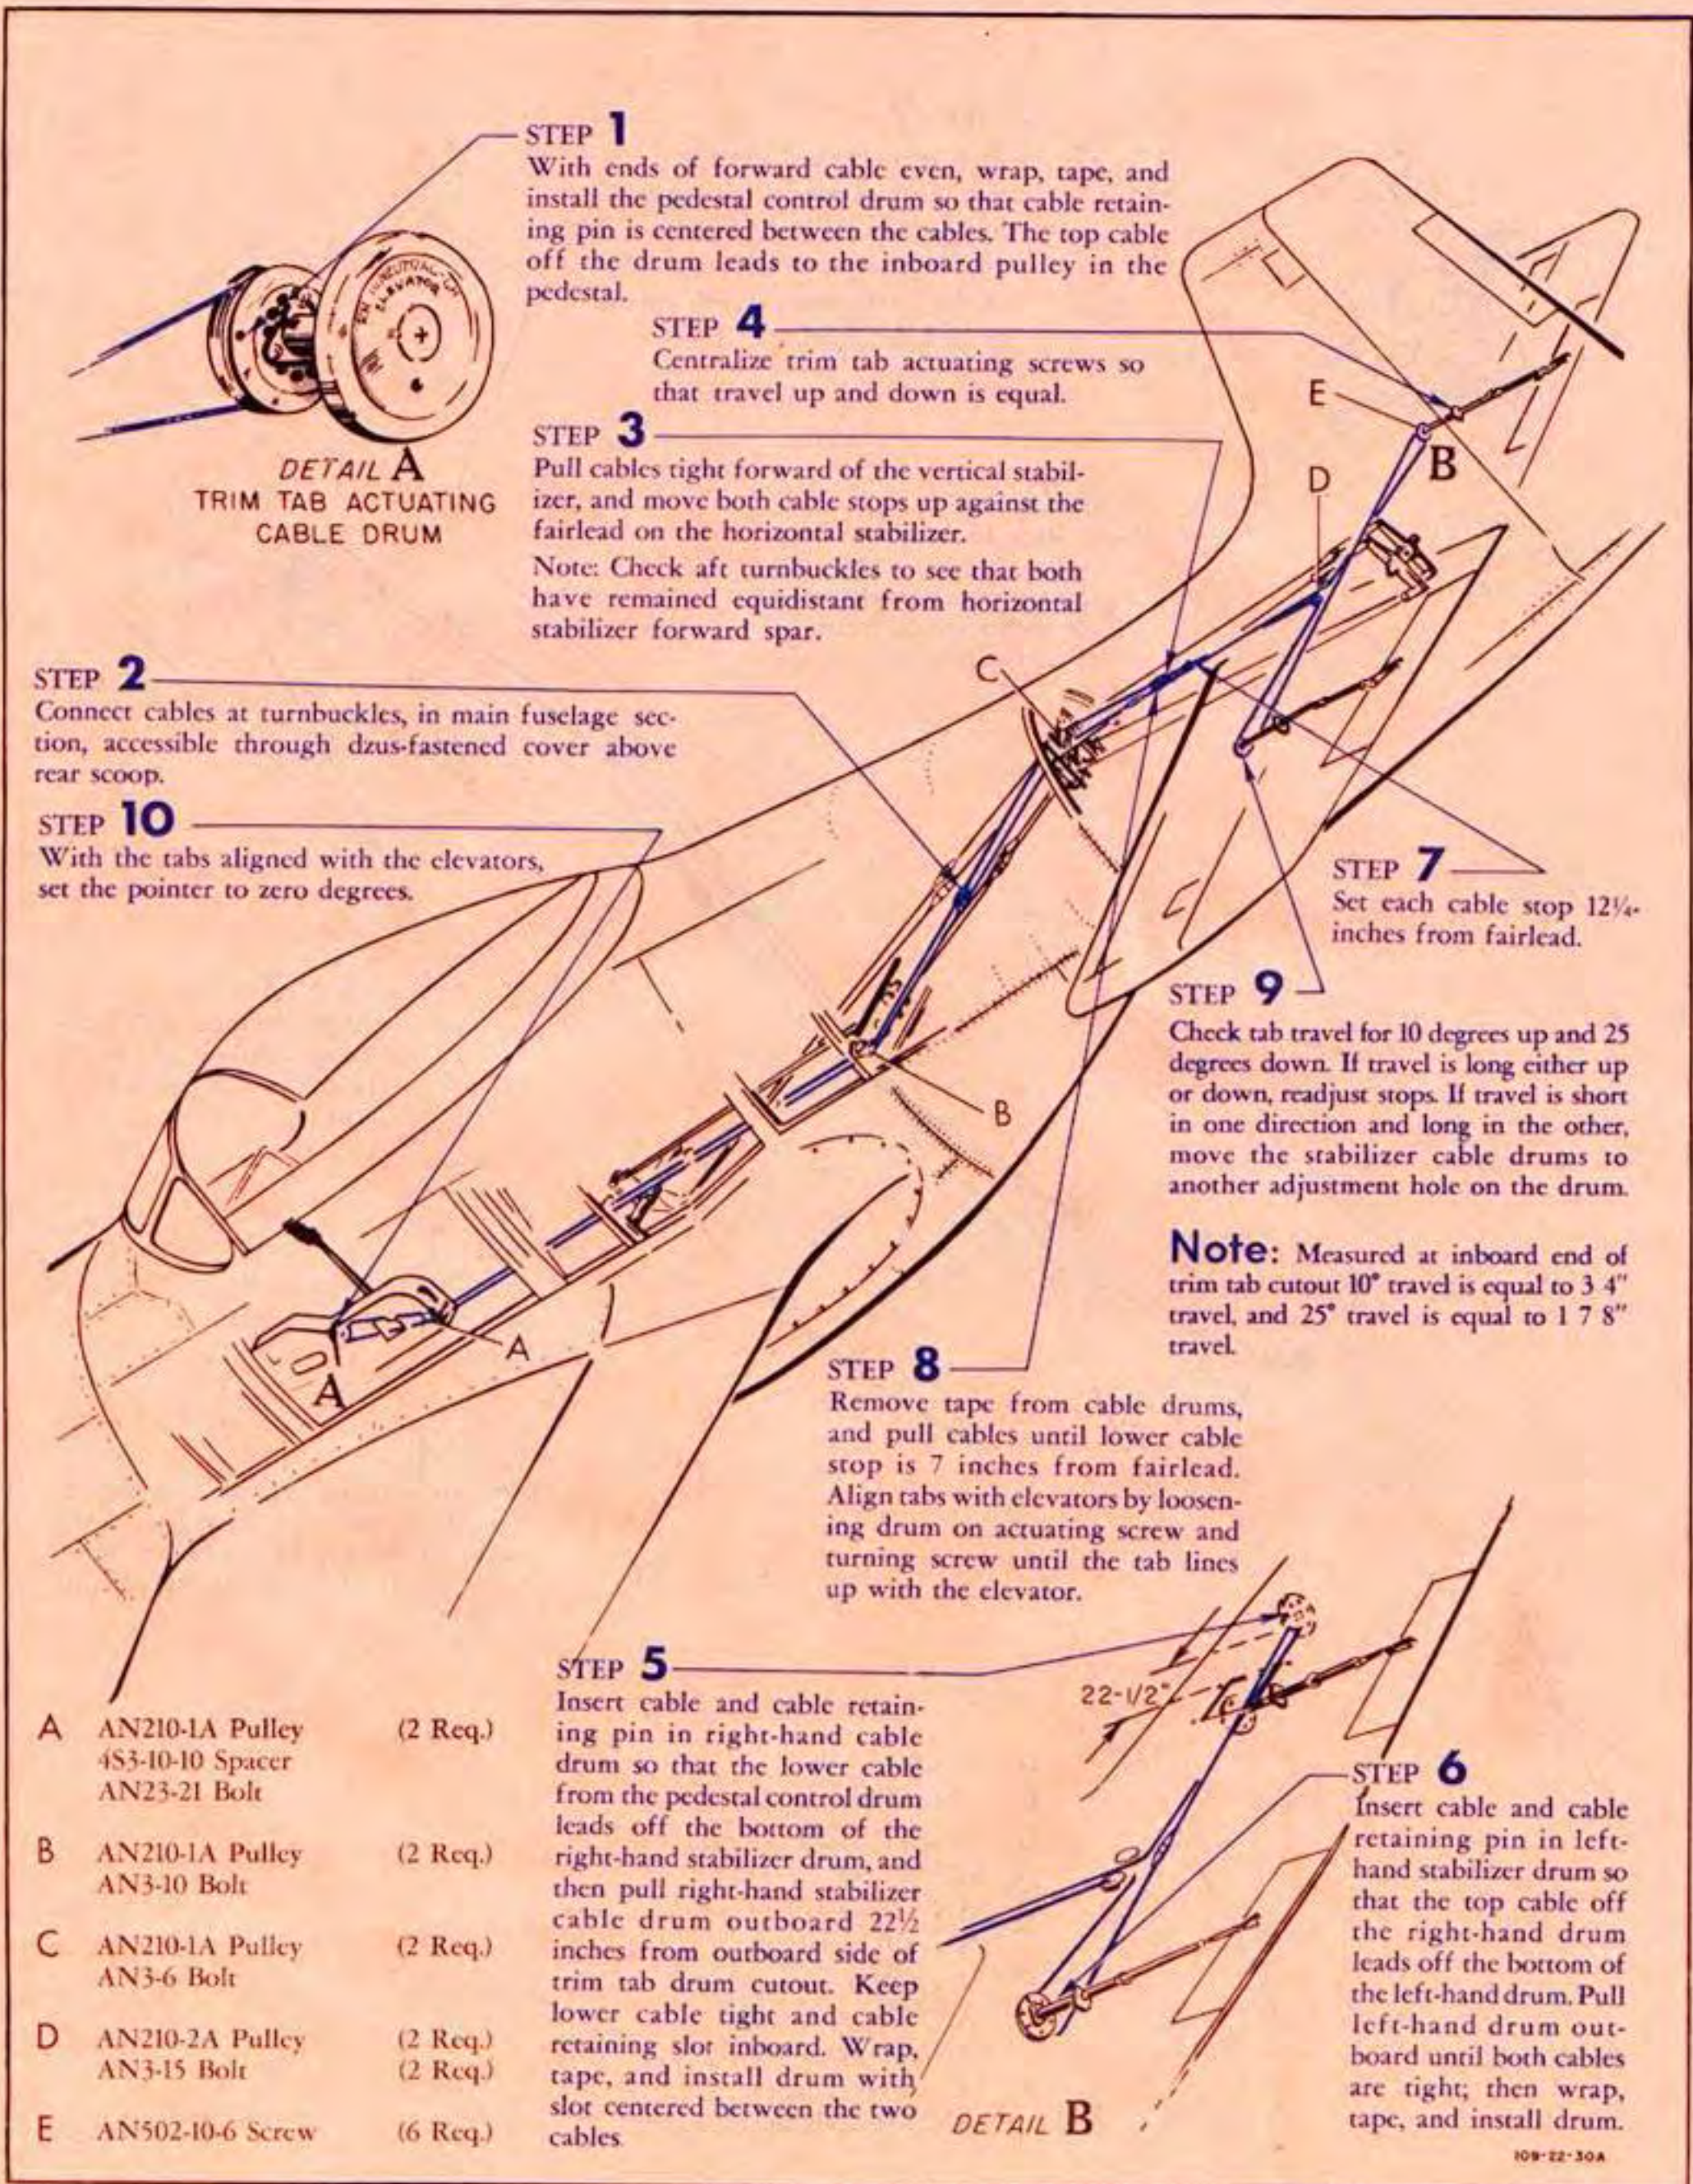

Figure 109—Elevator Trim Tab System
(1) DESCRIPTION.—A controllable trim tab is installed on each elevator. The tabs are operated by a wheel on the pilot's control pedestal. (See figure 106.) Control cables extend aft from a cable drum connected to the control wheel, through the fuselage to the center of the horizontal stabilizer, and then outboard to a cable drum in each side of the stabilizer. (See figure 109.) The actuating screw is threaded into the cable drum and moves fore and aft as the cable drum is rotated. Linkage connects the actuating screw to the tab and the fore-and-aft movement of the actuating screw moves the tab up and down. The movement of the tabs is limited to 10 degrees up and 25 degrees down, by cable stops just forward of the horizontal stabilizer. (See figure 109.)
(2) INSTALLATION, REMOVAL, AND ADJUSTMENT OF THE ELEVATOR TRIM TAB CONTROLS. (See figure 109.)